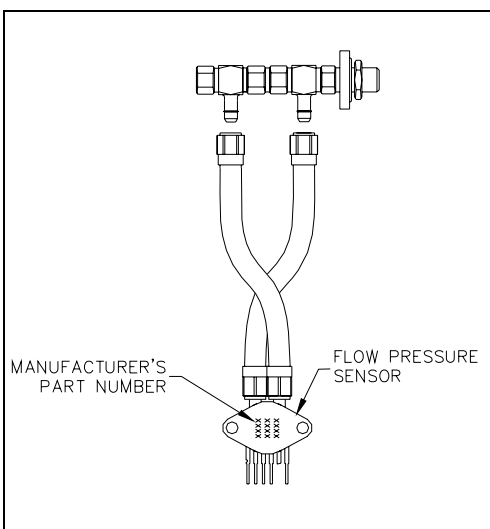

Figure 12. Flow-Pressure Sensor Assembly.
7. Insert tubes from new Flow-Pressure assembly into barbs on bulkhead fitting as illustrated in figure 12 (orientation of tubes is important).